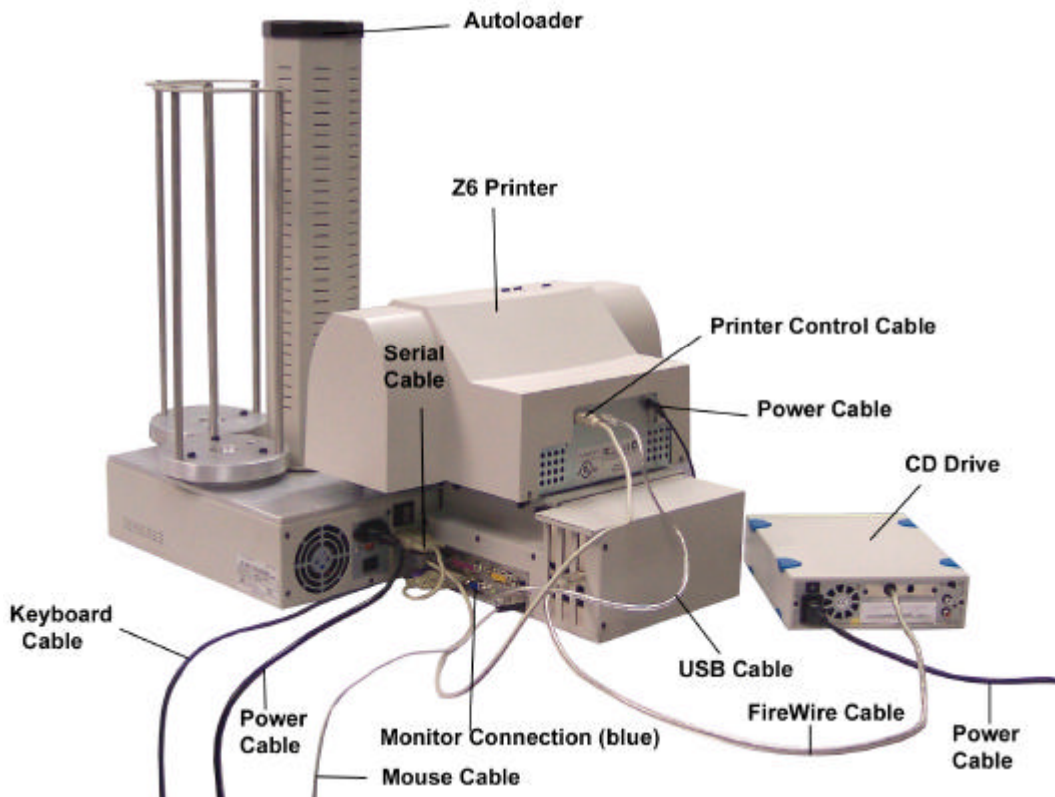
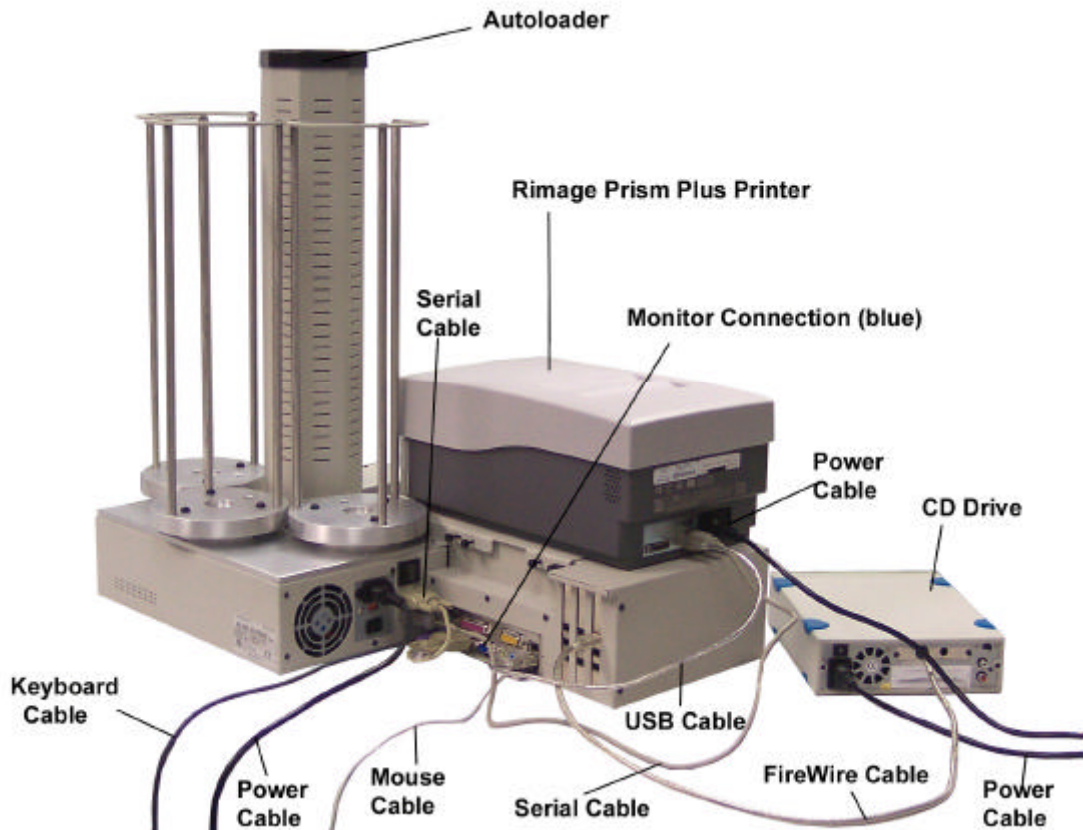
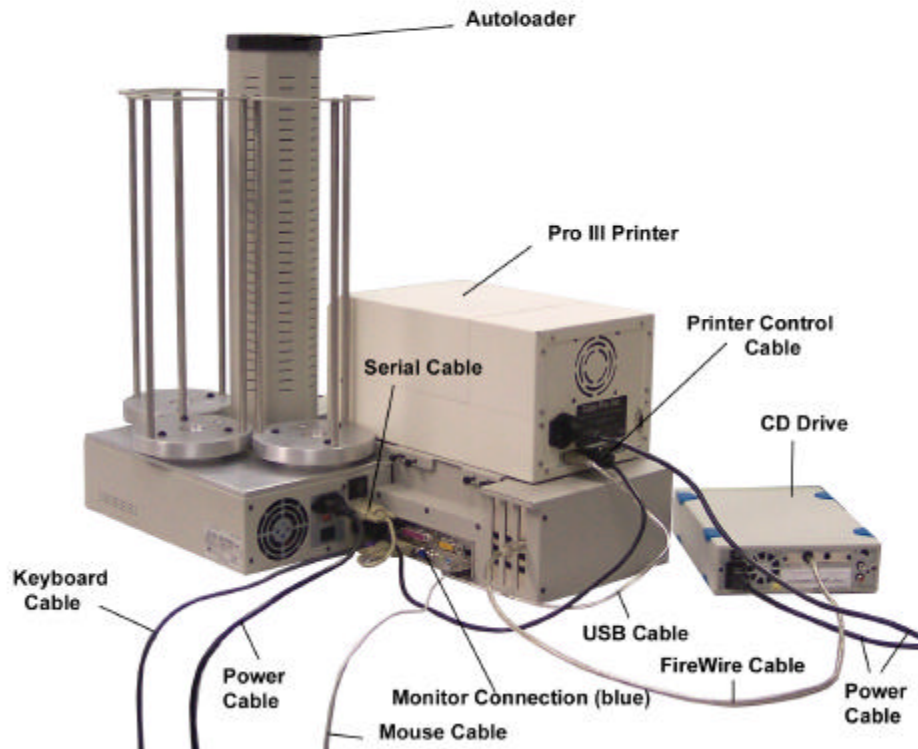
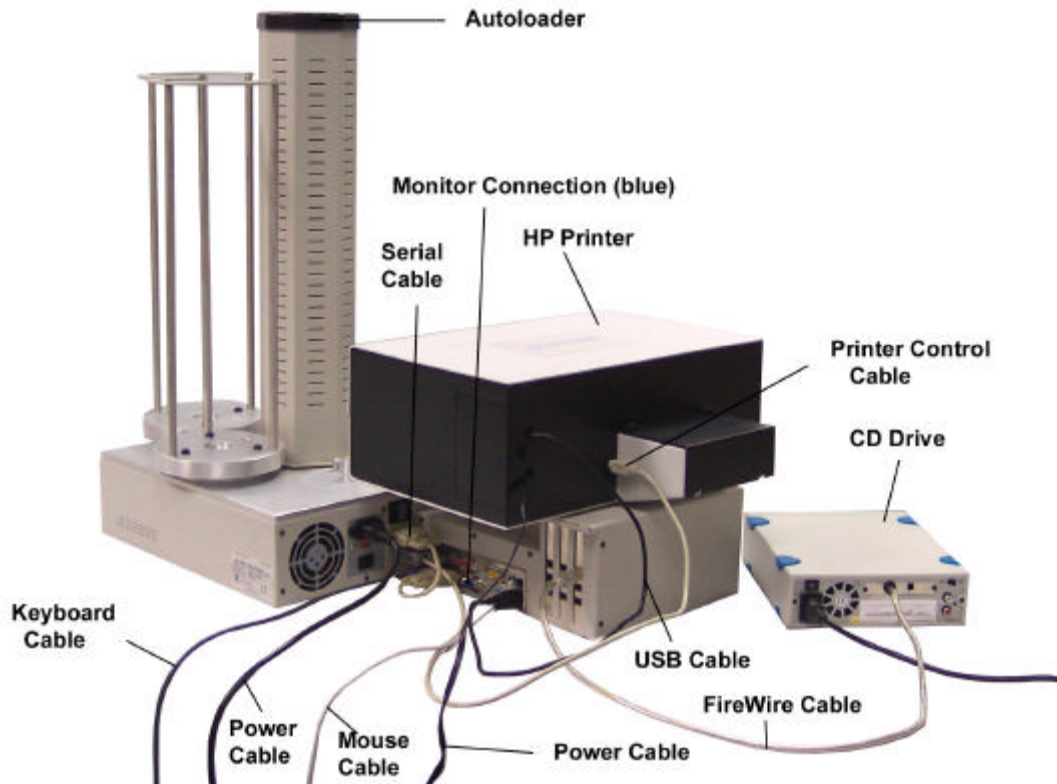

Fig. 4a
Fig. 5a
Fig. 6a
Fig. 7a
- Fig. 4a or 4b for system configured with Rimage Prism Plus printer (page 5)
- Fig. 5a or 5b for system configured with Pro III printer (page 6)
- Fig. 6a or 6b for system configured with HP printer (page 7)
- Fig. 7a or 7b for system configured with Teac P55 printer (page 8)
Repeat the above steps until alignment is complete and then tighten the thumbscrews as shown in Fig.3a for Signature Z6 printer; Fig.4a for Rimage Prism Plus printer, Fig.5a for Pro III printer, Fig. 6a for HP printer and Fig.7a for Teac P55 printer.